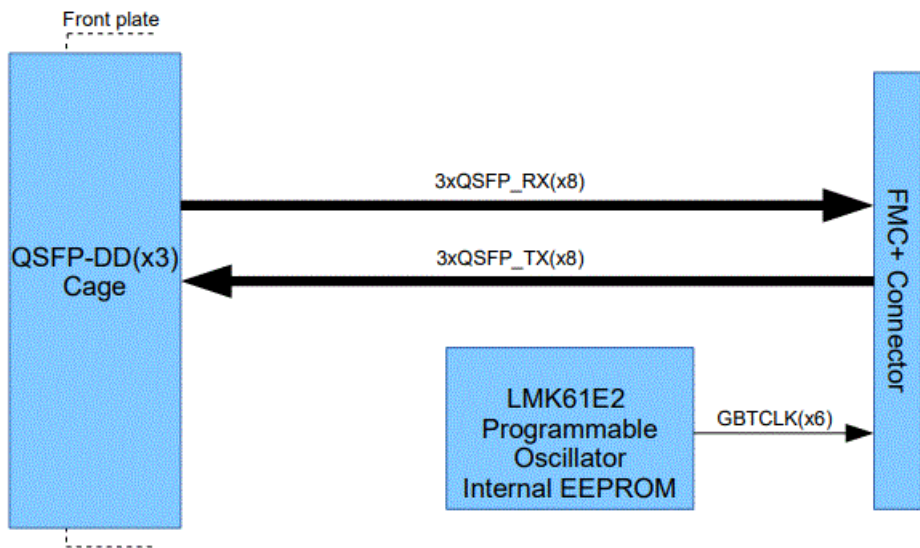

Figure 2 : FMC-PLUS_QSFP-DD Block Diagram
- Figure 2: FMC-PLUS_QSFP-DD Block Diagram